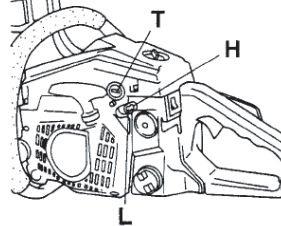

Fig. 32
**Carburetor adjustment (Fig. 32)**